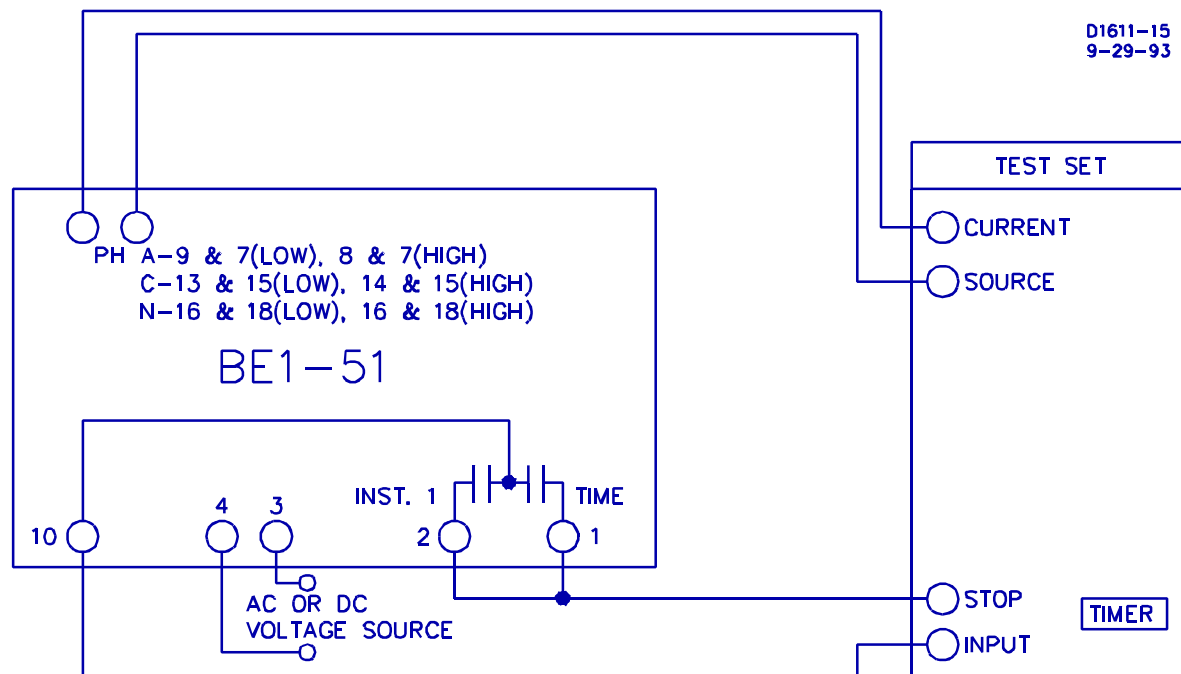

Figure 5-4. Test Setup for Sensing Input Type I or X (Two-Phase with Neutral Sensing)
- (d) Sensing Input Type I or X (Two-Phase with Neutral Sensing). Refer to Figure 5-4. Ensure that the timed output terminals 1 and 10 are connected. Also, verify that either A, B, or C current sense terminals are connected initially (N terminals will be connected later in the test).
Step 4. Adjust the front panel **INST 1** and **INST 2** controls, if present, fully clockwise (CW).
(b) Sensing Input Type I or X (Two-Phase and Neutral Sensing). Remove the power and reconnect the input sensing to the remaining phases as shown in Figure 5-4, each time repeating Steps 1 through 10. For neutral testing continue with Step 12.